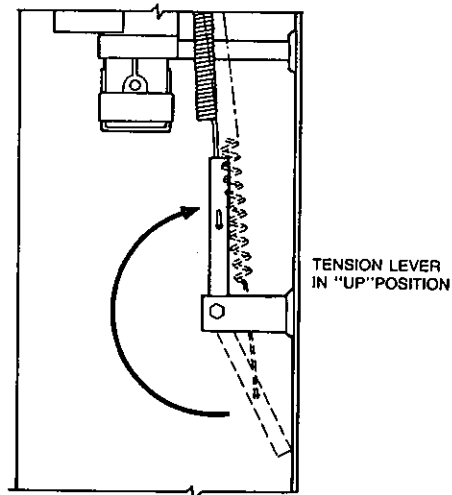

FIGURE 44
13. Make certain tension lever is in the "UP" position. See Figure 44.